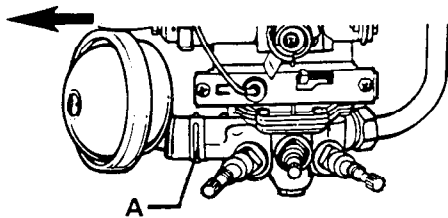

Fig.19
- a) Remove the retaining spring clip (A) with pliers (see fig. 19)